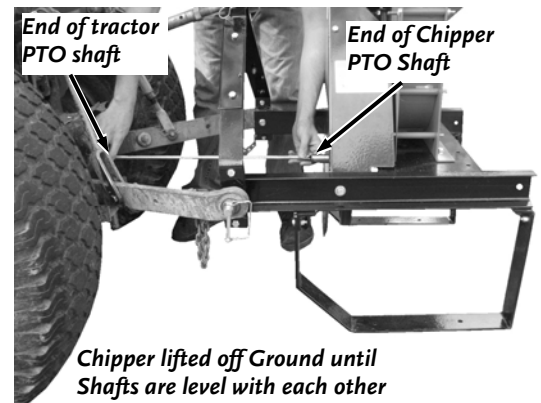

Figure 15
2. Raise the Chipper up until the Tractor PTO Shaft and Chipper PTO Shaft are parallel with each other. Measure from the end of the Tractor PTO Shaft to the end of the Chipper PTO Shaft and record this dimension in the "SHAFTS LEVEL" row of the table above (Figure 15).